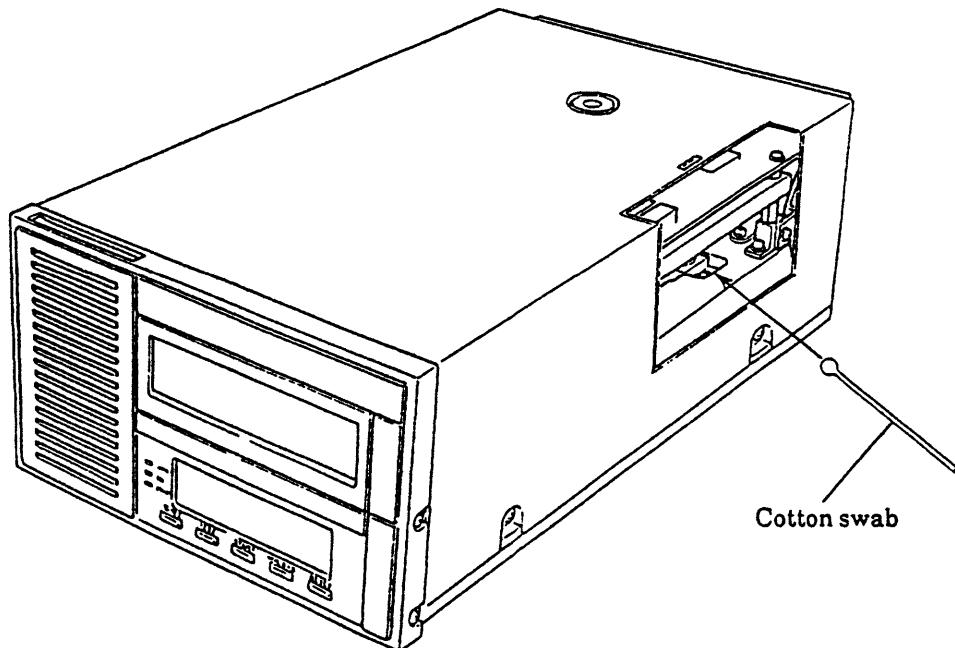

Figure 12.13 Tape path cleaning
(1) Procedure
- ① Remove the small cover of the top cover.
- ② clean the tape path (head) using the cotton swab and cleaning solvent (isopropyl alcohol) from the window of the top cover (see Figure 12.13).